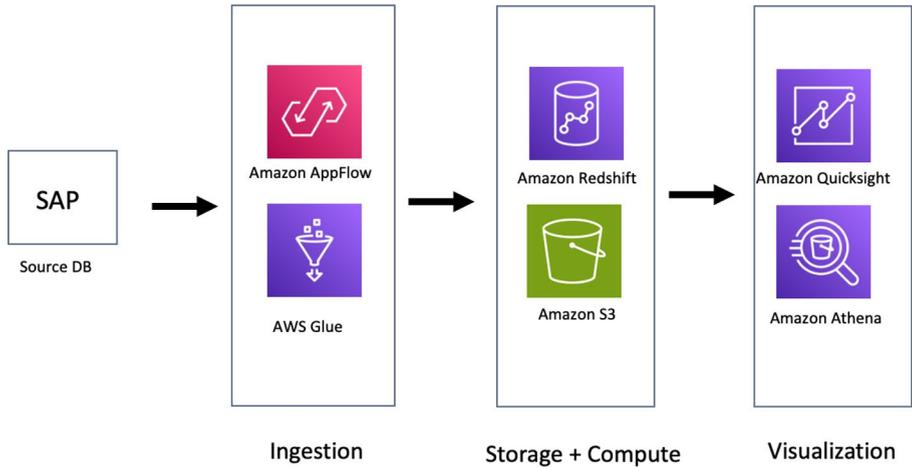
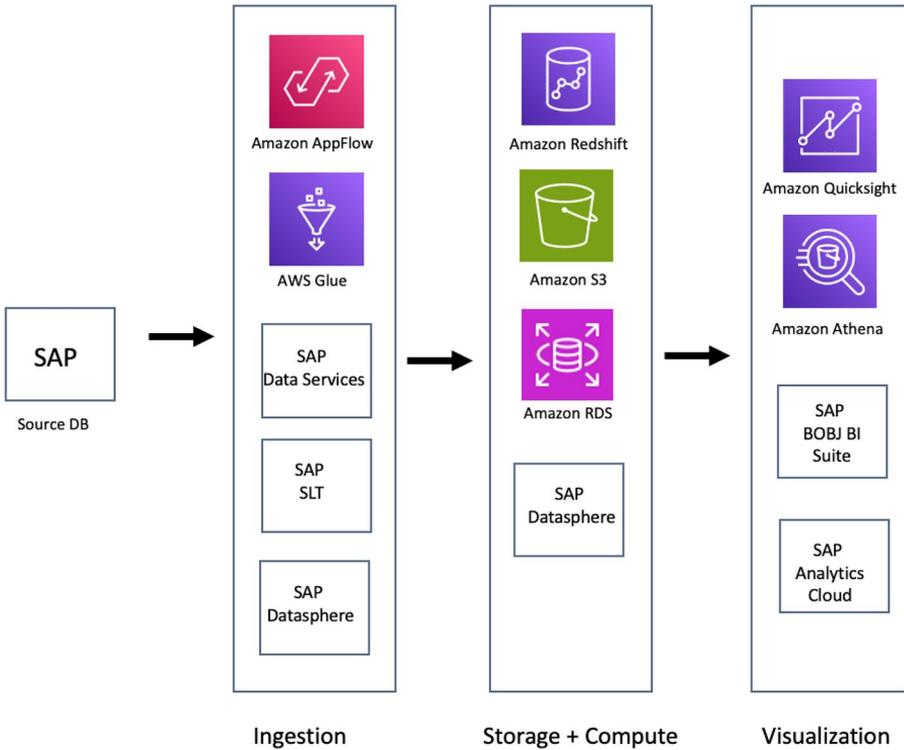
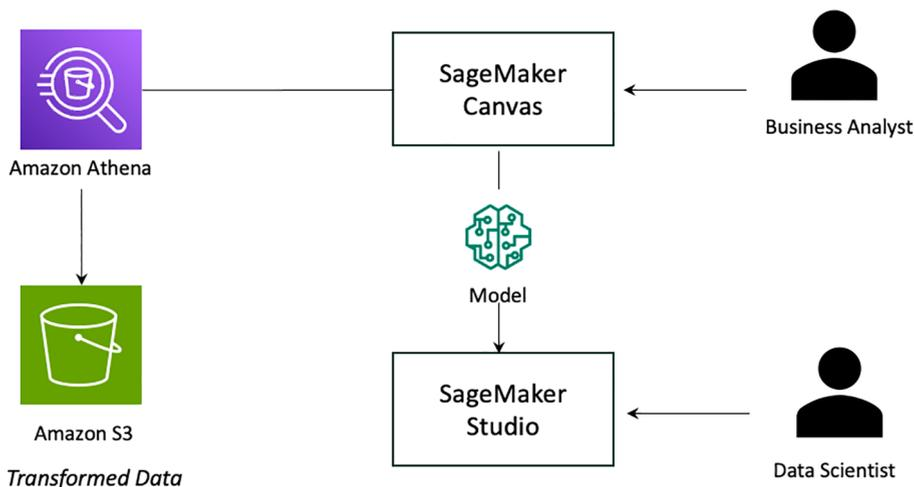

Figure 1-12. AWS services and their capabilities for SAP data analytics
Figure 1-14. AWS and SAP solutions for SAP data analytics
Figure 1-20. Building/connecting ML model to AWS data lake using Amazon SageMaker
Figure 1-12 shows the services offered by AWS for data visualization within SAP data analytics along with other capabilities like ingestion, storage and compute. For ad hoc universal querying of data from an Amazon S3 bucket, AWS offers Amazon Athena. Amazon Athena is an interactive query service that makes it easy to analyze data directly in Amazon S3 using standard SQL. Amazon QuickSight is a comprehensive business intelligence (BI) service designed to help users easily create and visualize
The previous diagram from Figure 1-12 depicting the role of different AWS services in the data analytics journey is updated in Figure 1-14 to show some of the currently relevant complementary offerings from SAP.
Now, going back to our data lake diagram (see Figure 1-14) from the last section, SageMaker Canvas can work directly with Amazon S3 data only if the data is in.csv format (as of November 2023); otherwise, you need to use Amazon Athena. Usage of SageMaker Studio and SageMaker Canvas in this context looks like the diagram shown in Figure 1-20. If you are wondering how the access control for business analysts and data scientists is controlled, specifically on what they should and should not see, it's all via AWS LakeFormation.